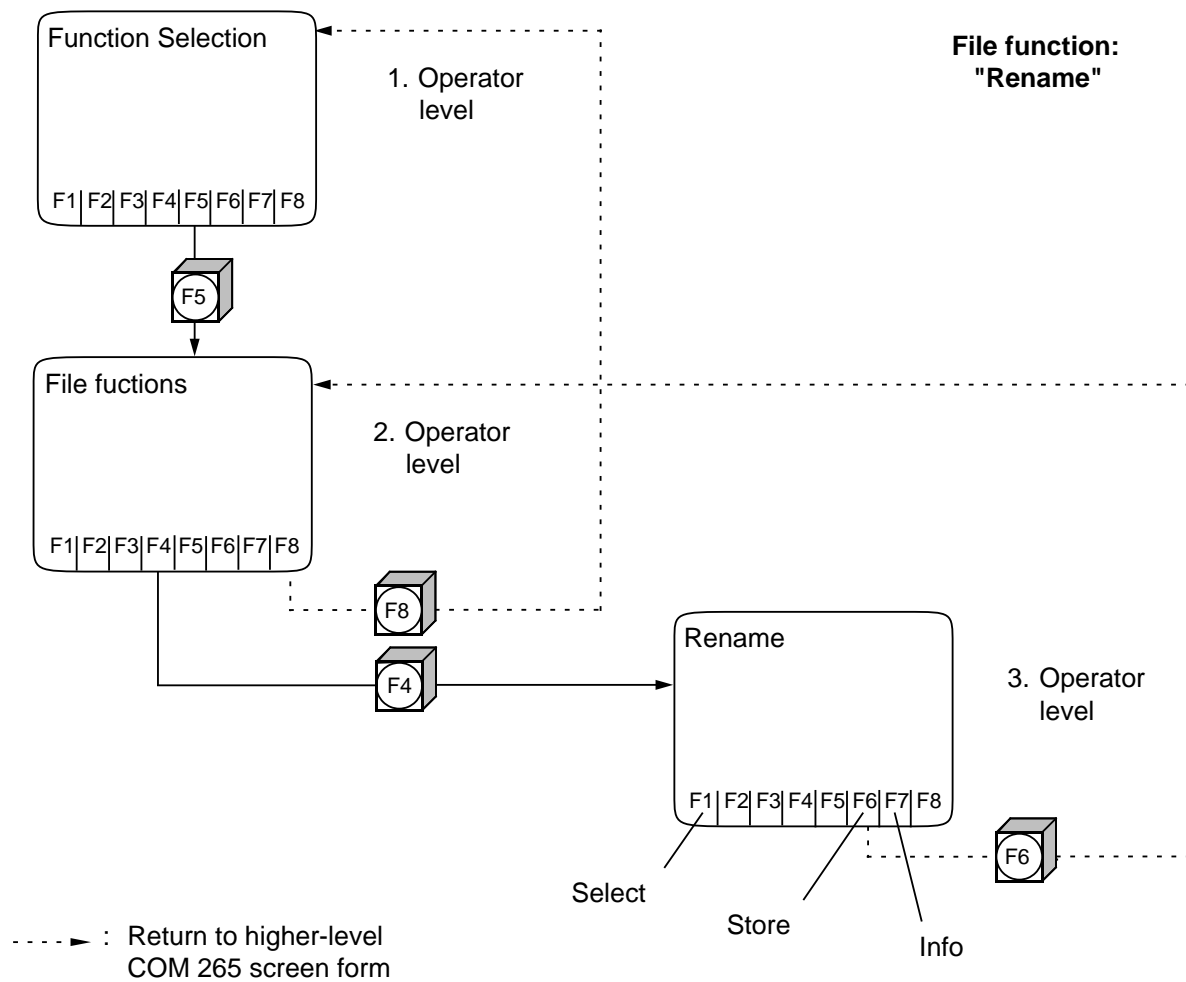

Figure 8-3. Selecting the "Rename" Function for Files
- <F8> ("Return") or <F6> ("Store") returns you to the next higher COM 265 screen form (Figure 8.3)
The path to the COM 265 screen form "Rename" is roughly outlined in Figure 8-3.